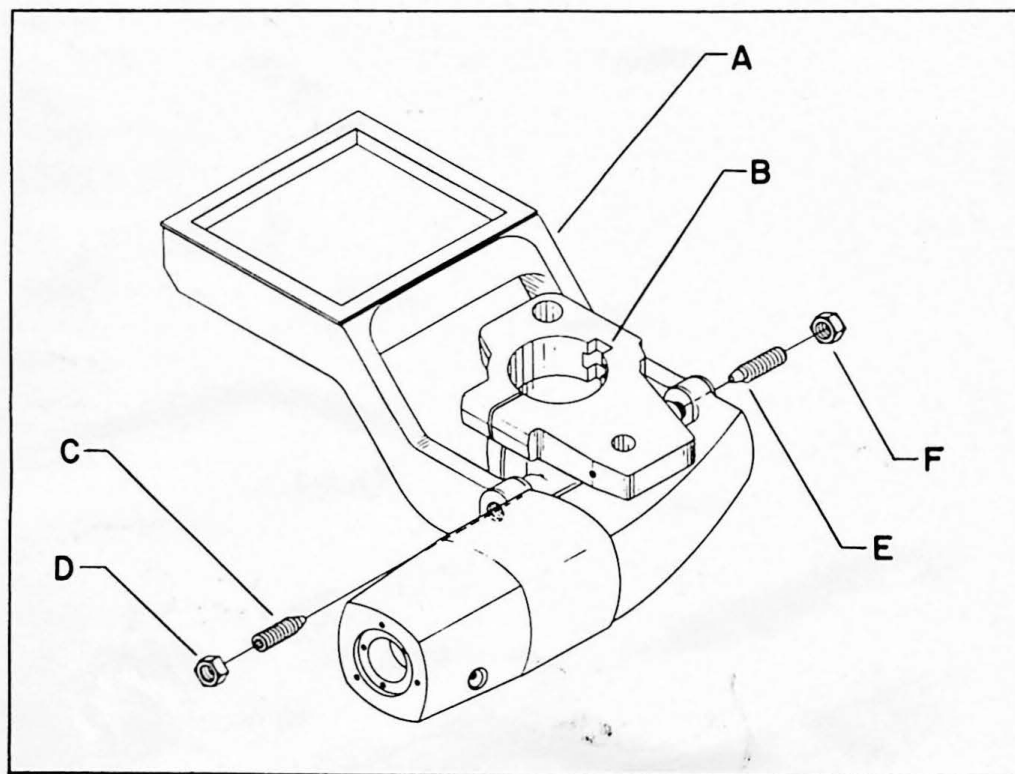

Fig. 12.
Before the grinder is placed into service, be sure the pivot screws are adjusted so that there is no play between the Spindle Housing and Motor Bracket Casting (A) Fig. 12, and the Column Sliding Bracket (B).
"Play" is removed by tightening the front concentric cone point pivot screw (C) Fig. 12, after loosening the jam nut (D). The rear eccentric cone point pivot screw (E) should not be disturbed when removing play, as this would throw the spindle out of parallel with the surface of the table.
The spindle can be adjusted in a vertical plane by turning the rear eccentric pivot screw (E) Fig. 12, always less than 360° . This is done to purposely tilt the grinding wheel slightly for wheel clearance when grinding a vertical plane surface, or to adjust the spindle to make it parallel with the table surface, as it should be for normal grinding.
After adjusting the spindle in a vertical plane, always lock the jam nut (F) Fig. 12, first on the rear eccentric pivot screw (E) and then remove all play by adjusting and locking the front pivot screw (C).